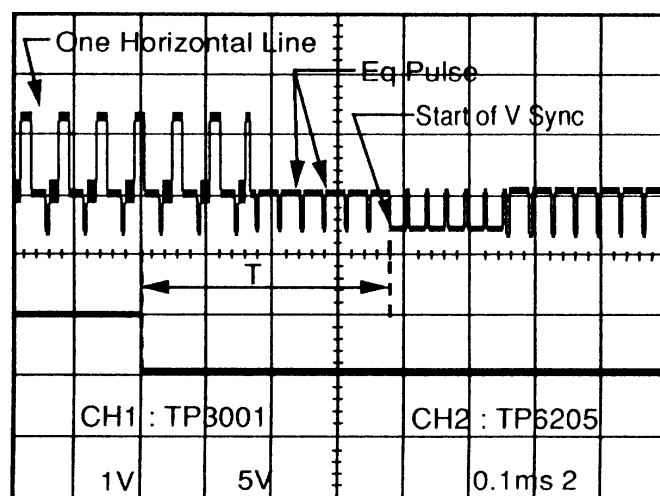

Fig. 6- PG Shifter Adjustment
**ELECTRICAL ADJUSTMENTS (Continued)****PG Shifter Adjustment (Fig. 6)**